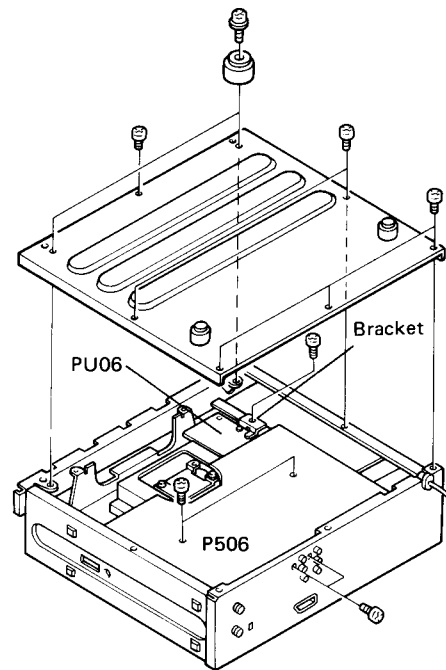

Fig. 5
1. Remove the bottom plate. (Fig. 5)
2. Remove the fixing screws of the main assembly (P506), the fixing screws of the ROM assembly (PU06) bracket and the terminal fixing screws of the rear panel. (Fig. 5)
5. Turn over the unit, thereupon detach the bottom plate, the main assembly (P506) and ROM assembly (PU06). (Fig. 5)